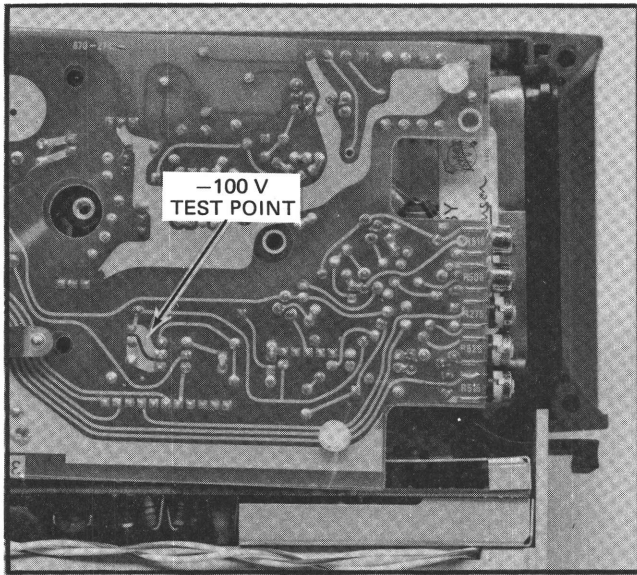

Fig. 4-2. Location of -100 V test point.
2. Measure the -100V supply for a reading of -95 volts to -110 volts (see Fig. 4-2).